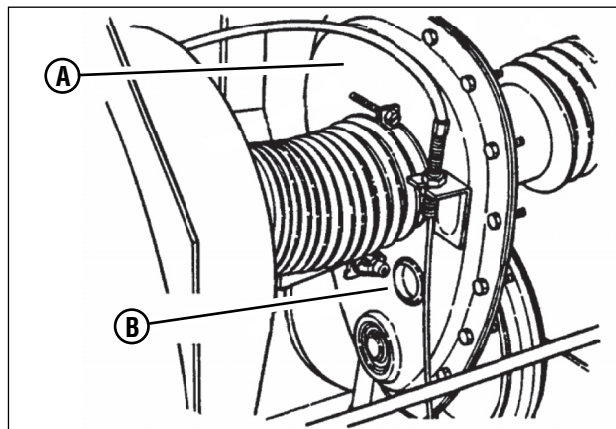

Figure 29: Chain case lubricant check
3. Check the fill/level plug (A, Figure 29) on the chain case (B) for damage. If signs of wear or cracks are visible, replace with a new plug.